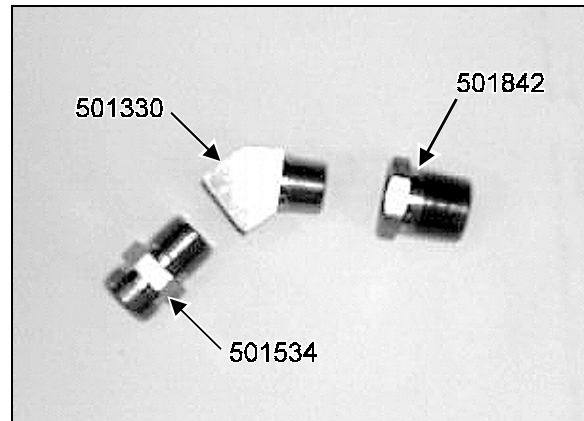

FIGURE 2: FITTING ASSEMBLY 12091
5. Preassemble two fitting assemblies with parts #501534, 501330 & 501842 as in figure 2, using Loctite PST (Prévost #680098) or equivalent sealant. Tighten with suitable wrench.